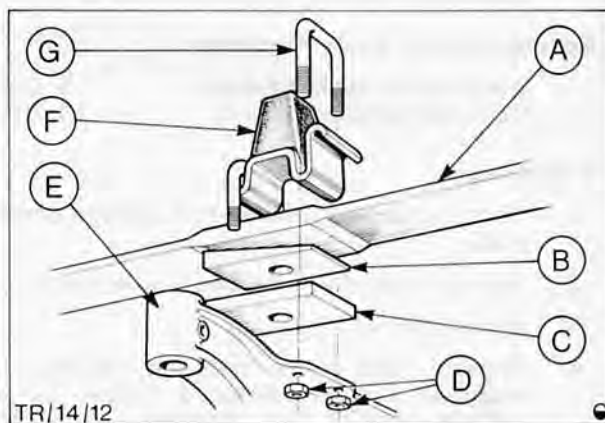

Fig. 19. Front spring and wedge assembly
24. Refit springs to axle beam, Fig. 19. Ensure packing piece and wedge is fitted between spring and axle, and that wedge has its thickest position rearwards. Secure springs and bump stop to axle with 'U' bolts and nuts, both sides.